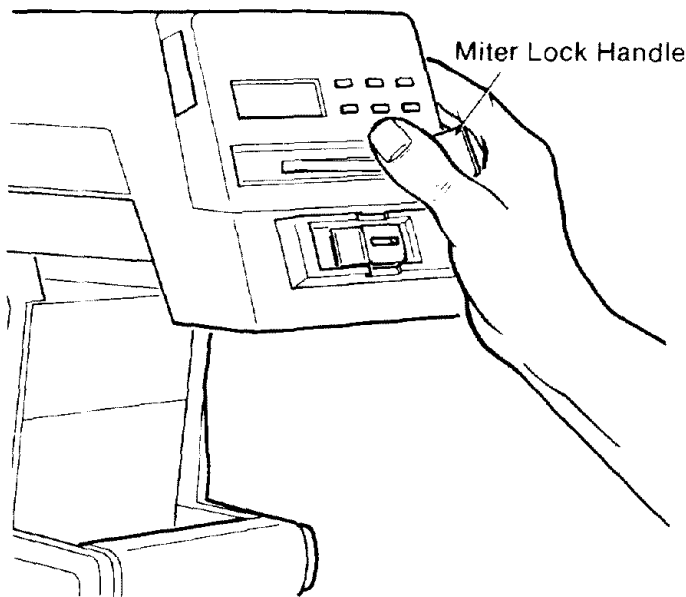

Fig. 156 - Miter Lock - Unlocked
1. Move the *arm* to an unindexed position and leave the *miter lock* in the unlocked position. (Figure 156)